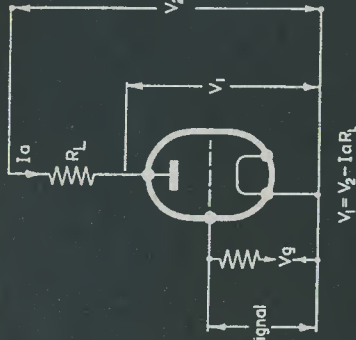

FIG. 1b. Voltages in an amplifier stage.
An elementary valve circuit is shown in Fig. 1b. The anode voltage (not the HT voltage) depends upon (1) the current flowing through the valve and (2) the value of the load resistor. For example, if the HT were 250 volts, $R_L=20$ k Ω , and $I_a=5$ mA, the voltage developed across R_L would be